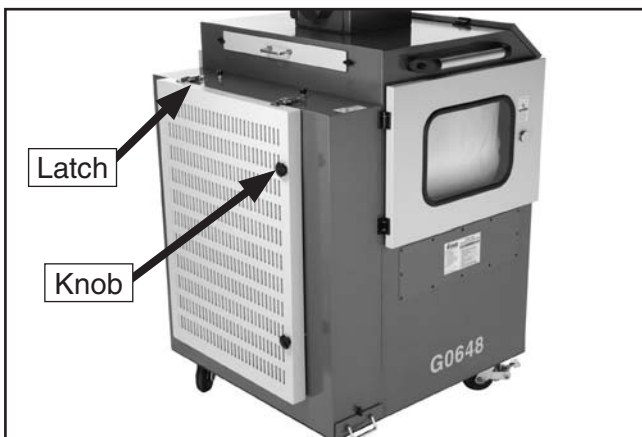

Figure 41. Removing HEPA filter housing.
2. Unscrew the lock knobs, unlatch the HEPA filter housing, then open the filter housing (**Figure 41**).